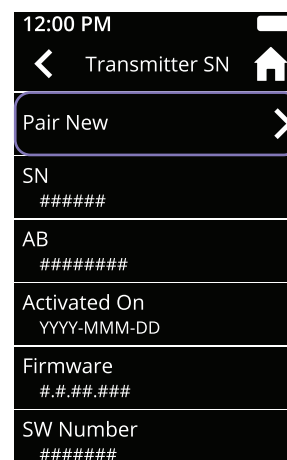

Figure 80
- Tap **Pair New** (see Figure 80)